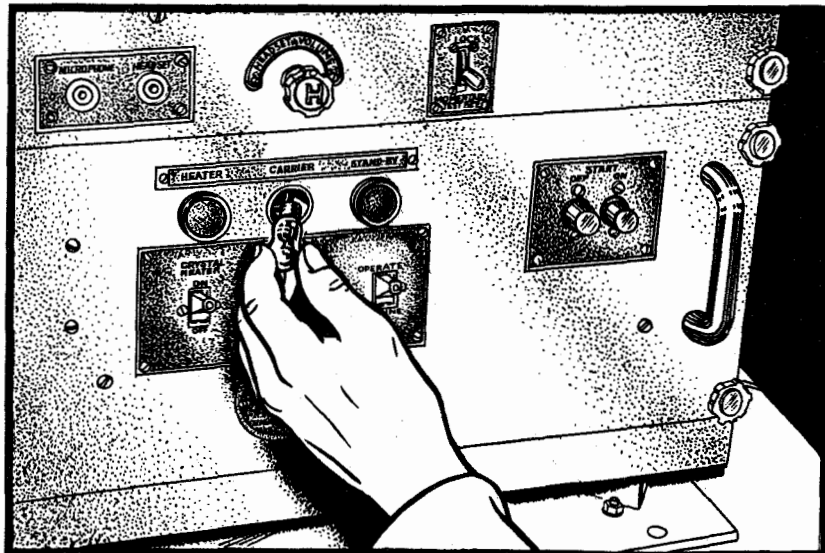

Figure 176
Step 2 (Figures 176 to 180 incl.)